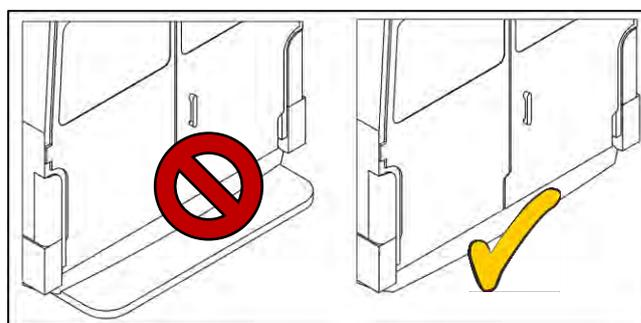

Figure 9
- If the vehicle has a bumper with an integrated step, replace it with a bumper without a step (see Fig. 9).